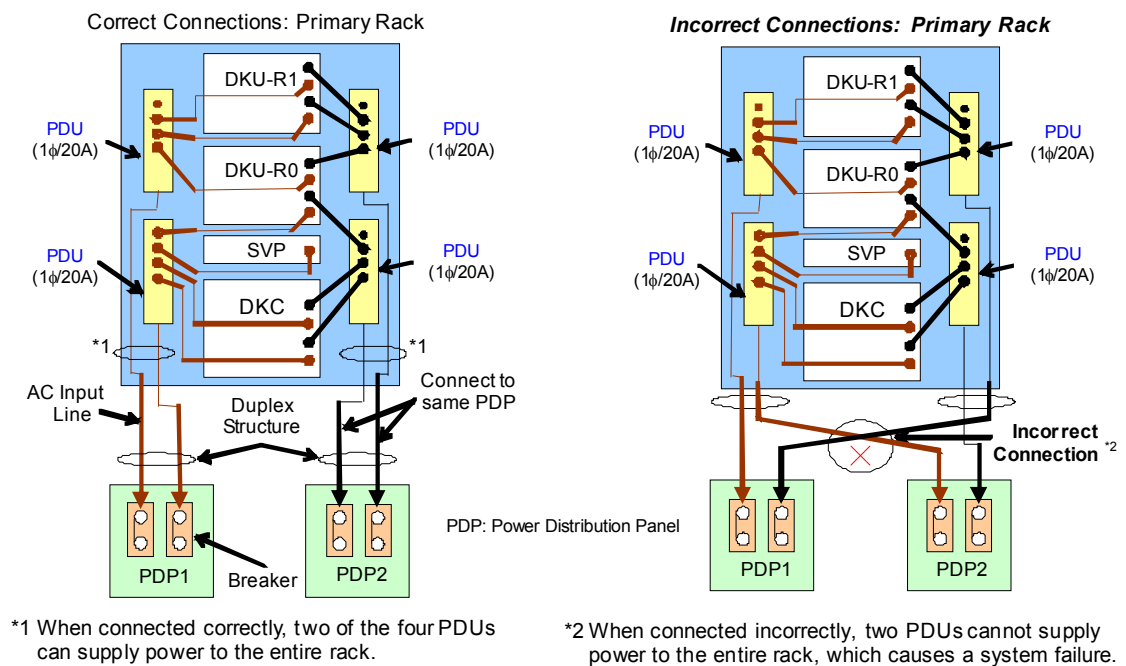

Figure 5.10 Direct Power Connection
- **Direct connection to power.** Figure 5.10 shows the power connections when the AC input lines are connected directly to the power facility.
Caution: When installing the TagmaStore NSC, make sure to connect the AC cables between the PDUs and PDPs correctly. If these cables are connected incorrectly, a system failure will occur when one of the AC inputs is interrupted. Figure 5.10 illustrates both the correct connections (drawing on the left) and the incorrect connections (drawing on the right).